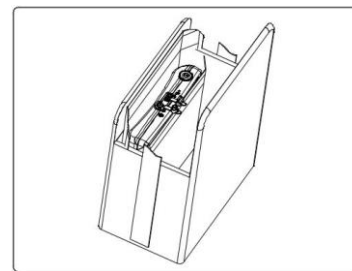

Figure 36. Put the device into storage/transport bag
3. After drying the WoundEL® device, store it in the WoundEL® storage/transport bag separately packed from other WoundEL® components until next use, see Figure 36.